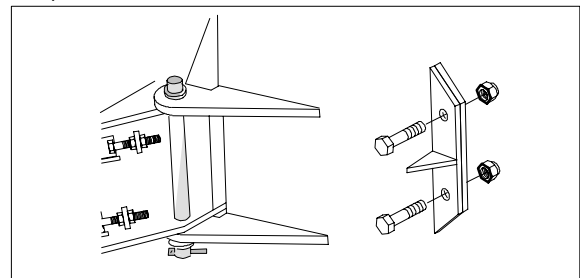

Fig.4.
3. Mount the feeding device to the chipper with a hinge pin and, from the other side, with two M12x40 bolts and M12 nuts. See fig. 4. (If you use a hydraulic feeder, refer to separate manual for instructions on mounting and connecting the hydraulics.)